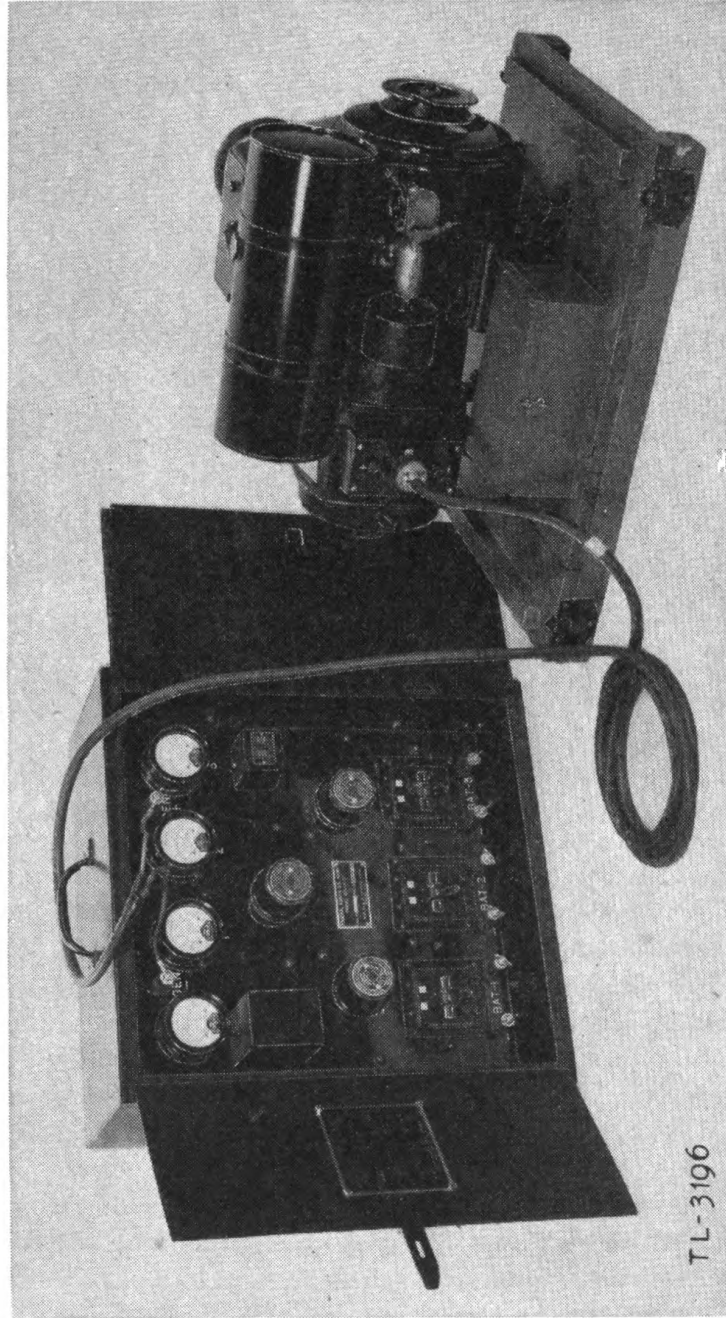

FIGURE 14.—Charging set SCR-169 set up for operation.
c. *Cord CD-107.*—This cord connects the panel to the power unit as shown in figure 14. It is 15 feet long and consists of two conductors
b. Preparing set for service.—Reference should be made to figure 14 in connection with these instructions. Place the power unit in a level position where there is a good circulation of air. Unfasten the four trunk catches located at the bottom corners of the packing crate